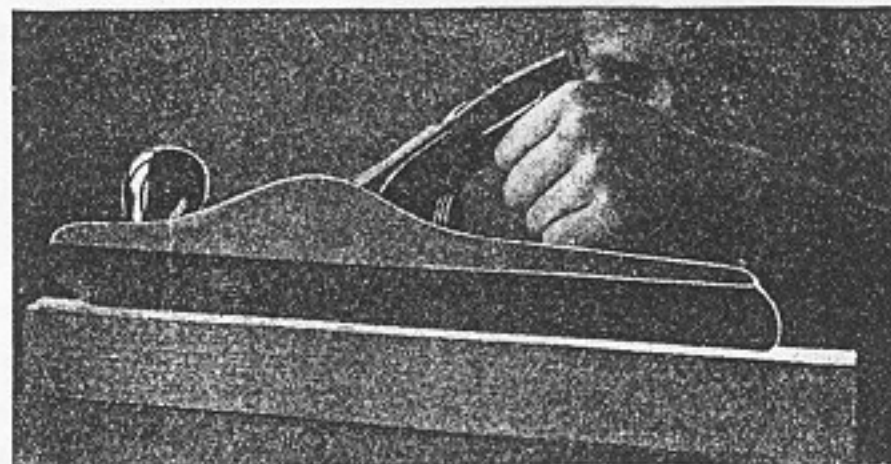

Fig. 97. Testing edge for straightness with plane.
4. The board is tested for straightness with a framing square or with the edge of the plane (Fig. 97). It is tested for squareness with a try-square (Figs. 98 and 115).
2. One of the edges is planed until it is straight and square to the *working face*. The straightness of the board is tested with the edge of the plane (Fig. 97), and the squareness with the try-square, holding the handle of the square firmly against the working face (Fig. 115. See Planing Operation 36). This edge is called the *working edge*.